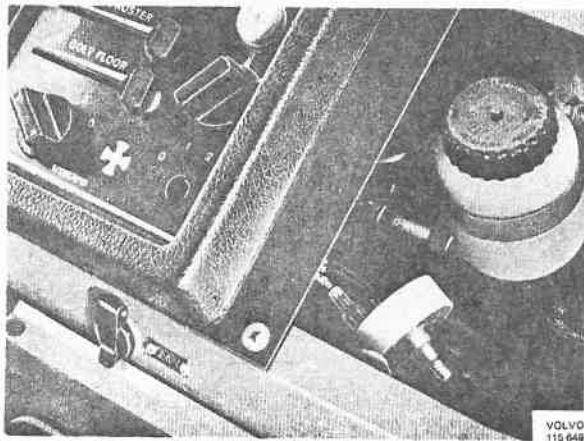

Fig. 36-25. Turn-type switches
4. Lift forward the switch, see Fig. 36-25. Mark the cables to ensure correct re-installation and remove them.